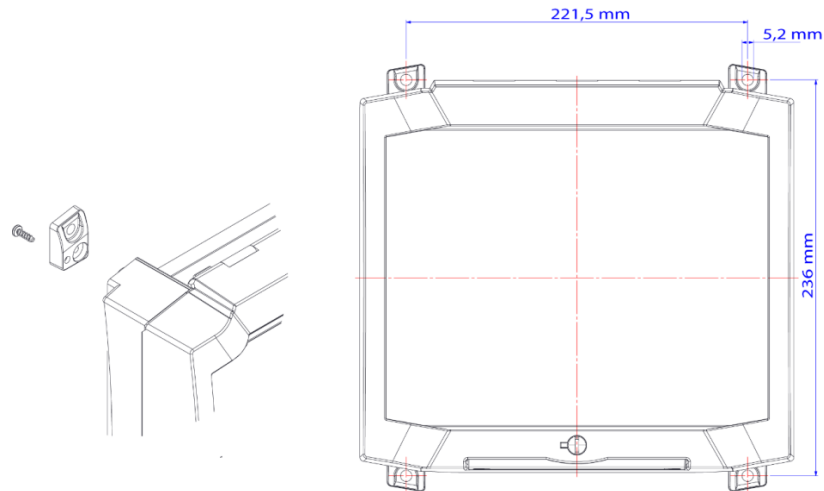

Fig. 1: Wall mounting parts and dimensions of the drill holes of the FILTER|CONTROL.
To mount the FILTER|CONTROL, place the delivered wall mounting parts on the back of the device. Tight the parts with the delivered screws (3 x 10 mm, see Fig. 1). Afterwards, you can use the wall mounting parts of the FILTER|CONTROL to attach the device to its place, e.g. on a wall.
**Fig. 1:** Connecting an open channel drum filter and a boxed drum filter. Please note that the filter motors here are controlled by the high-power actuator output port OUT 3.